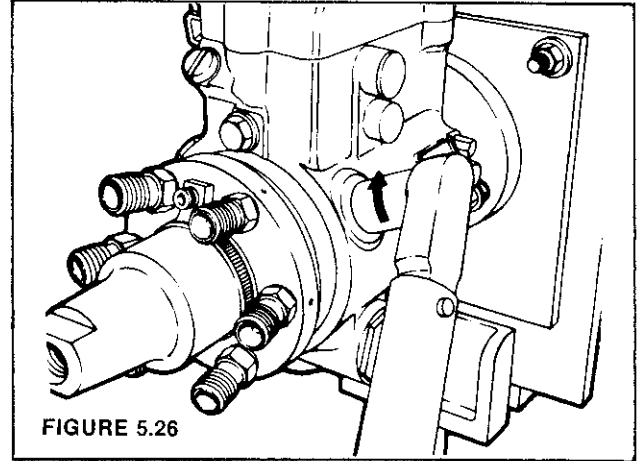

FIGURE 5.26
STEP 26 Tighten the two head locking screws to the specified torque (Figure 5.26).